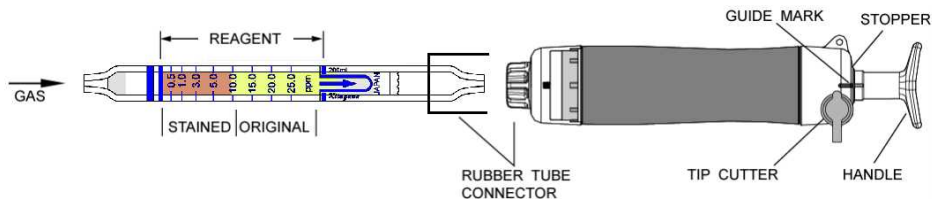

Fig.1
- ② Insert the detector tube into the aspirating pump securely as shown in Fig.1. (Arrow mark shall point to the pump.)
- ③ Align the guide marks on the shaft and stopper of the aspirating pump.
- ④ Pull the pump handle at a full stroke until it locks and wait for 1.5 minutes or until the completion of sampling is confirmed with the flow indicator of the pump (See descriptions about the flow indicator in the instruction manual of the pump).
- ⑤ Turn the pump handle right or left by 1/4 (90°), push it toward the pump without removing the detector tube from the pump, and repeat the steps ③~④ once more.
- ⑥ On completion of sampling, read the scale at the maximum point of the stained layer.
- ① Temperature: Correct the tube reading by following temperature correction table.